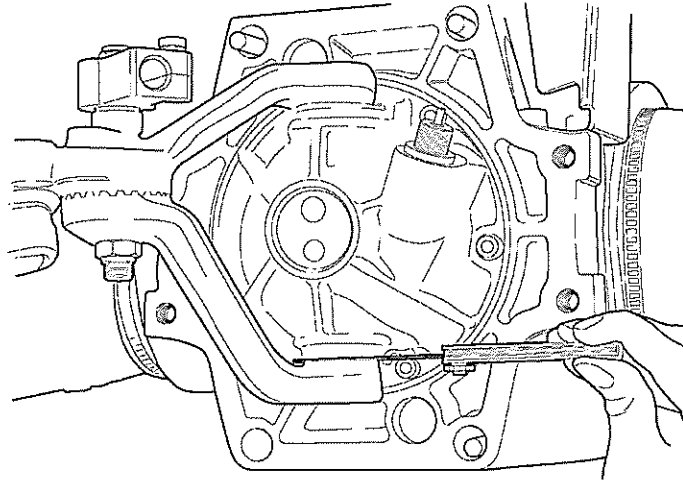

Fig 8 Measuring drag link arm axial clearance
20.8 Remove drag link and check axial movement of drag link arm. Adjusting shim thickness is correct if drag link arm has no free play but is just clear to move. If checking by feeler gauge reveals axial play between housing and bearing disk, adjust by adding shims. Shims are available in thickness of 0.1, 0.2 and 0.3 mm (see Fig 8).